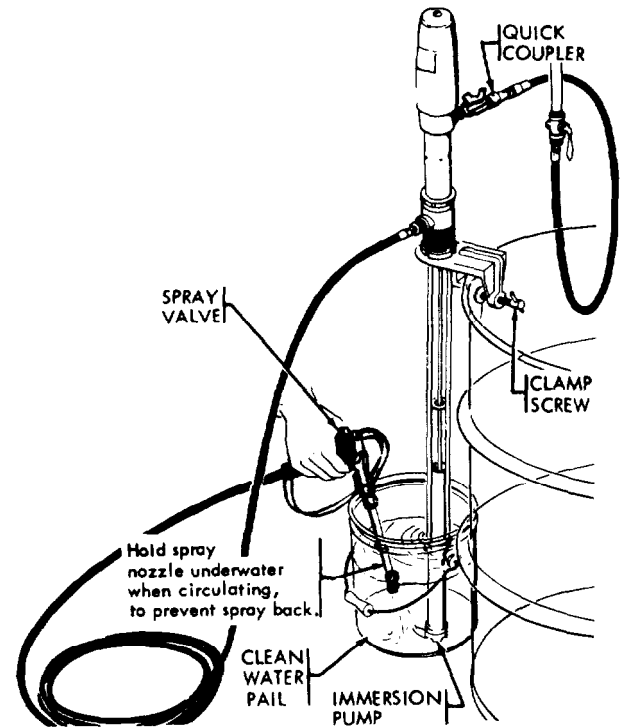

Fig 3
- (1) Remove pump from container of solution and remount so pump is outside of container. See Fig. 3.
- (2) Aim spray valve into solution container, squeeze lever and pump out all possible solution.
- (3) Stop pump by closing air valve and set pump in pail of 2-3 gallons of clear water as shown in Fig. 3.
- (4) Aim spray valve into pail of water, open air valve, squeeze valve lever and circulate water for 3 or 4 minutes.
- (5) Release valve lever, remove pump from pail, reclamp pump to outside of container, aim valve into pail, squeeze valve lever and pump out all possible water.
Change Fig. 4 to Fig. 3.